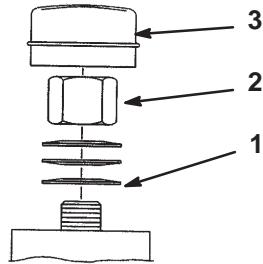

Figure 50
2. Remove dust cap from castor and tighten lock nut (Fig. 50).
3. Tighten until spring washers are flat and then back off a 1/4 turn to properly set the preload on the bearings (Fig. 50).
Important Make sure spring washers are installed correctly as shown in Figure 50.